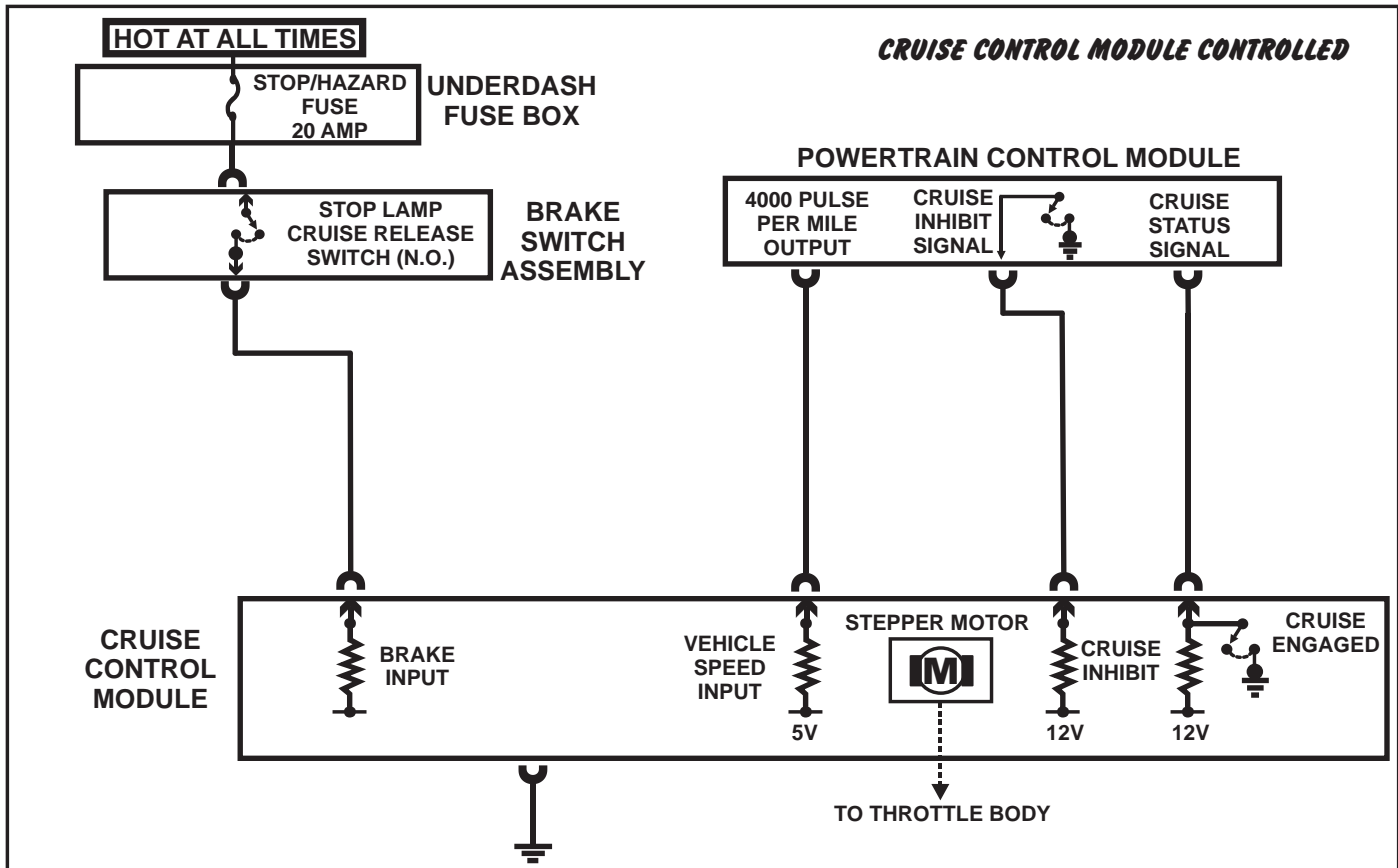

Figure 155
- On systems that are Cruise Control Module controlled, check the “Cruise Status” circuit, (Refer to Figure 155). If 12 volts are seen on this circuit, then Cruise Control is engaged, If less than 1 volt is seen, Cruise Control is disengaged.